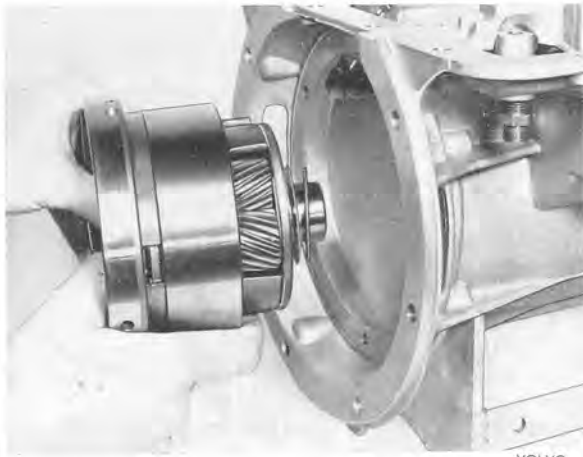

Fig. 4-105. Installing center support and planet gears with needle thrust bearing and plate washer.
7. Assemble the planet gear, one-way clutch and center support, see Fig. 4-105. Stick the thrust plate and needle thrust bearing to the planet cover with vaseline.